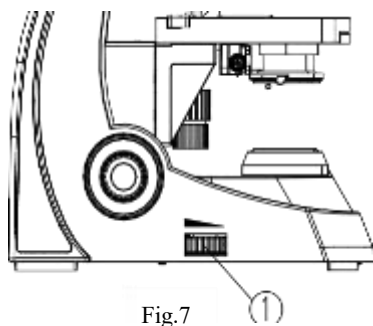

Fig.7
1. Put through the power and turn on the main power switch to “—” (ON).
2. Adjust the light adjustment knob ① until the illumination is comfortable for observation. Rotate the light adjustment knob clockwise to raise the voltage and brightness. Rotate the light adjustment knob counterclockwise to lower the voltage and brightness (see Fig. 7).